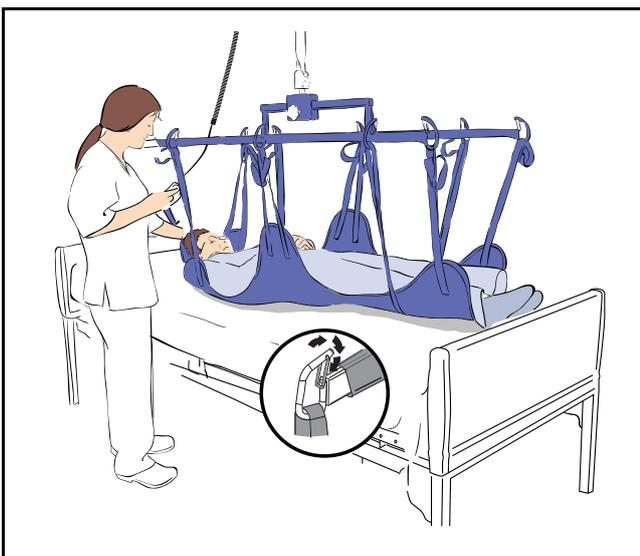

Fig. 13
- 5) Connect all the sling loops securely (see Fig. 13).
WARNING: When attaching a loop sling to the Adjustable Stretcher Frame, make sure the loops are positioned correctly and that the latches are closing the hooks as shown in Fig. 13.